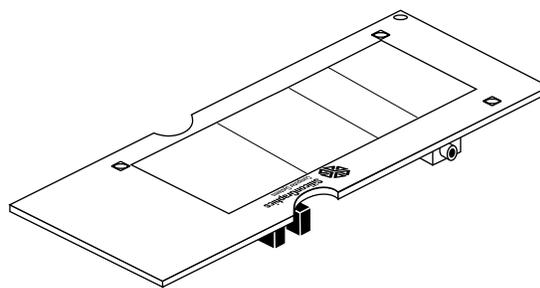

Figure 3-12 The Presenter 1280 XZ Board
- Identify the Presenter 1280 XZ board. (See Figure 3-12.)